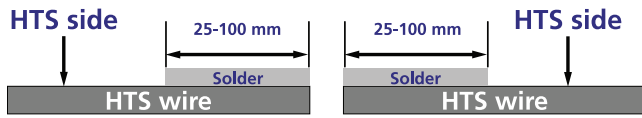

Figure 7. Tinned wires for strap splice overlap joints
- With the soldering iron set to the appropriate temperature, "tin" the fluxed portion of the wires with a thin coating of solder as shown below in Figure 7.